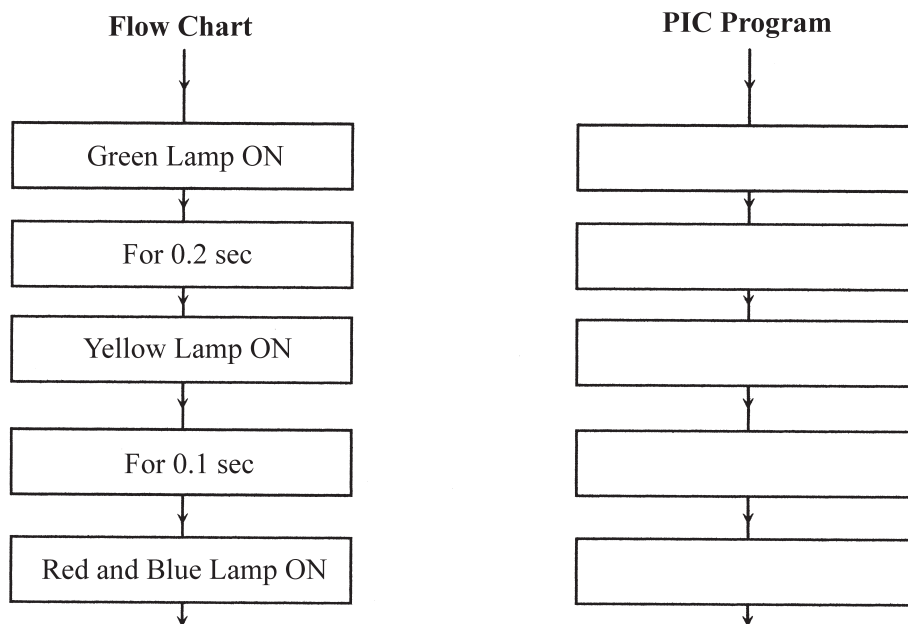

Figure 5
Figure 5 shows part of a flow chart and the layout of the PIC program controlling the lamps.
- (a) Complete the program for the part of the flow chart in **Figure 5** using a suitable programming method of your choice. (5 marks)